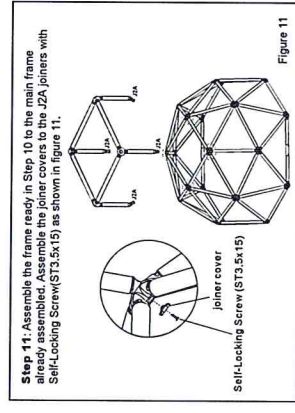

Figure 11
**Step 11:** Assemble the frame ready in Step 10 to the main frame already assembled. Assemble the joiner covers to the J2A joiners with Self-Locking Screw (ST3.5x15) as shown in figure 11.